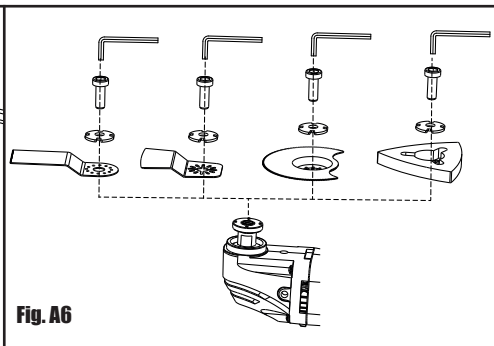

Fig. A6
- Mounting the rigid scraping blade/semicircle saw blade/sanding pad (See Fig. A6)